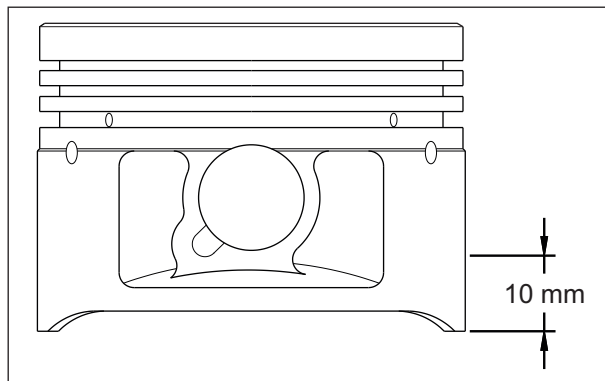

Fig. 3.90
- Measure the diameter at the right angle to the pin piston and at a point which is 10 mm from the bottom to check wear. If the diameter is lower than the service limit, replace the piston. (Fig. 3.90)